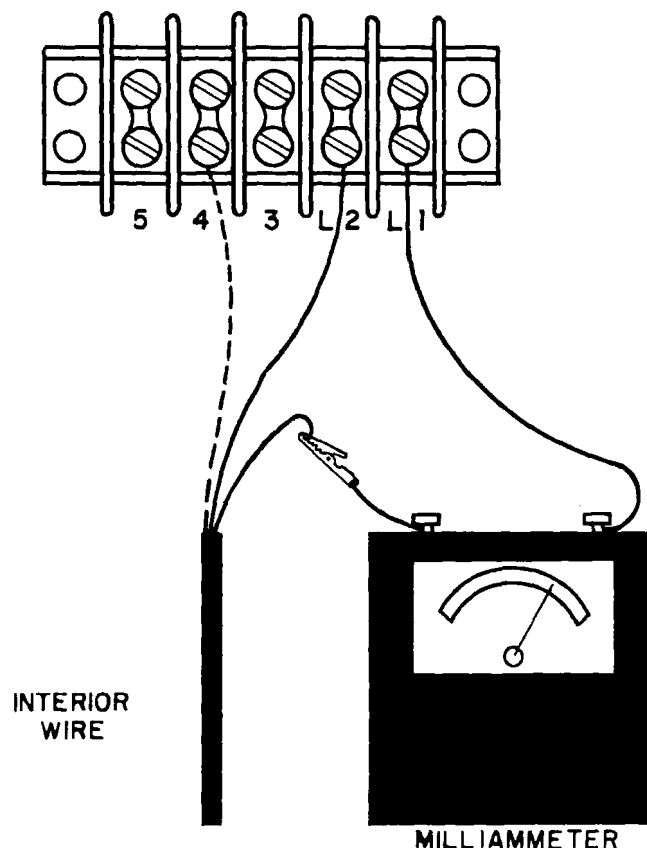

Figure 22. Line-current measurement at subscriber's premises.
- b. Adjustments without assistance from the central office. With the telephone housing removed, transfer the line-wire from terminal strip terminal L1 to a post on a milliammeter, then connect the other milliammeter post to terminal L1 (figure 22). Remove the handset from the hook, and